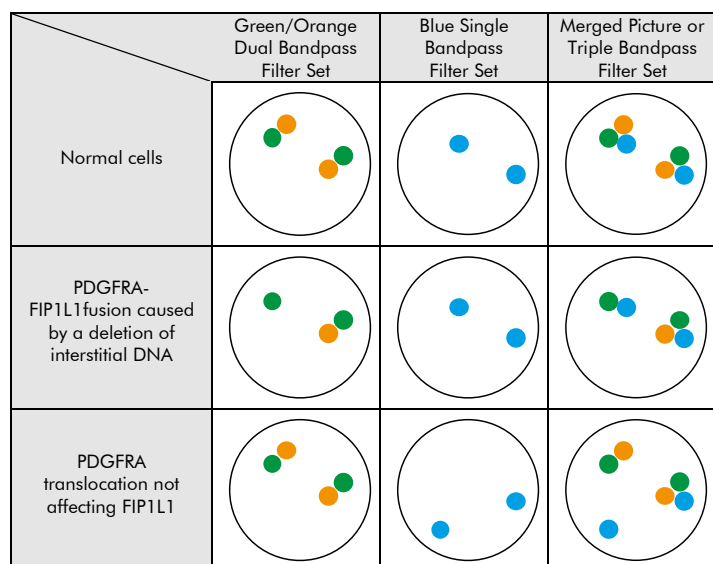

Fig. 2: Expected results in normal and aberrant nuclei
**Normal situation:** In interphases of normal cells or cells without PDGFRA-FIP1L1 rearrangements, two green/orange fusion signals appear when using an appropriate dual bandpass filter set, and two blue signals appear when using an appropriate single bandpass filter set. When using an appropriate triple color bandpass filter set, two green/orange/blue fusion signals can be observed (see Fig. 2).
**Aberrant situation:** A PDGFRA-FIP1L1 fusion resulting from a deletion of interstitial DNA is indicated by the loss of one orange signal leading to a separate green signal co-localizing with a blue signal. A PDGFRA translocation without involvement of FIP1L1 is indicated by a green/orange fusion signal and a separate blue signal (see Fig. 2).